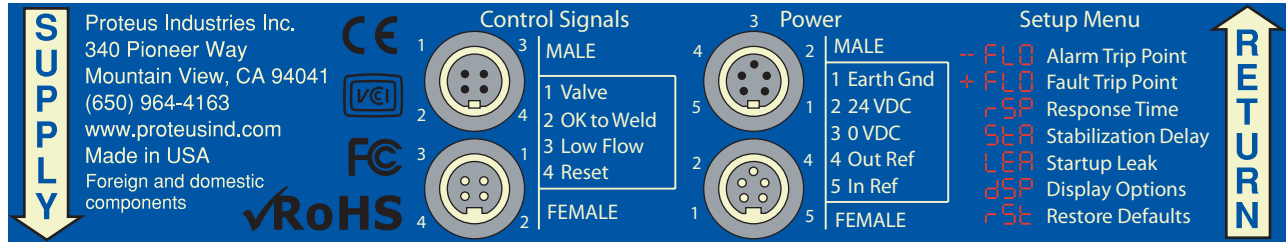

Figure 3: Wiring and electrical connection diagrams for the WS1G WeldSaver
1. Refer to Figure 3 on Page 23 for dimensions and fastening locations.
1. Refer to Figure 3 above to identify the 24 VDC power interface connections.